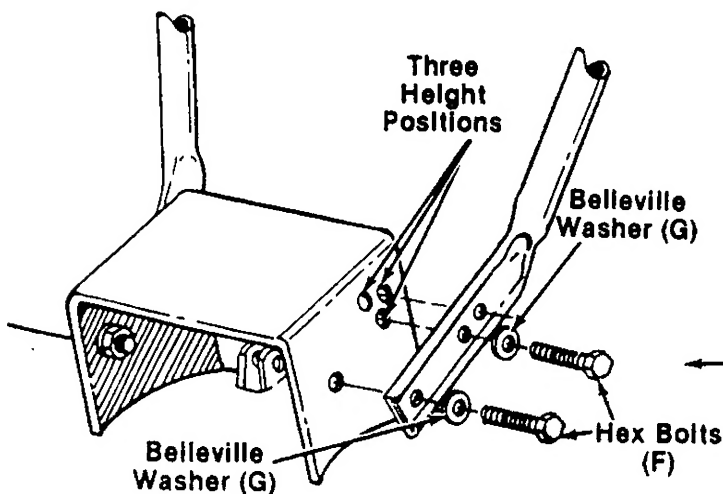

FIGURE 6.
1. Place right handle (V) in position on the right side of the tiller. Insert hex bolts (F) through belleville washers (G), handle and mounting bracket. See figure 6. Secure with hex nuts (I) and lock washers (H).
2. Repeat step 1 for left handle (Z) on the left side of the tiller.